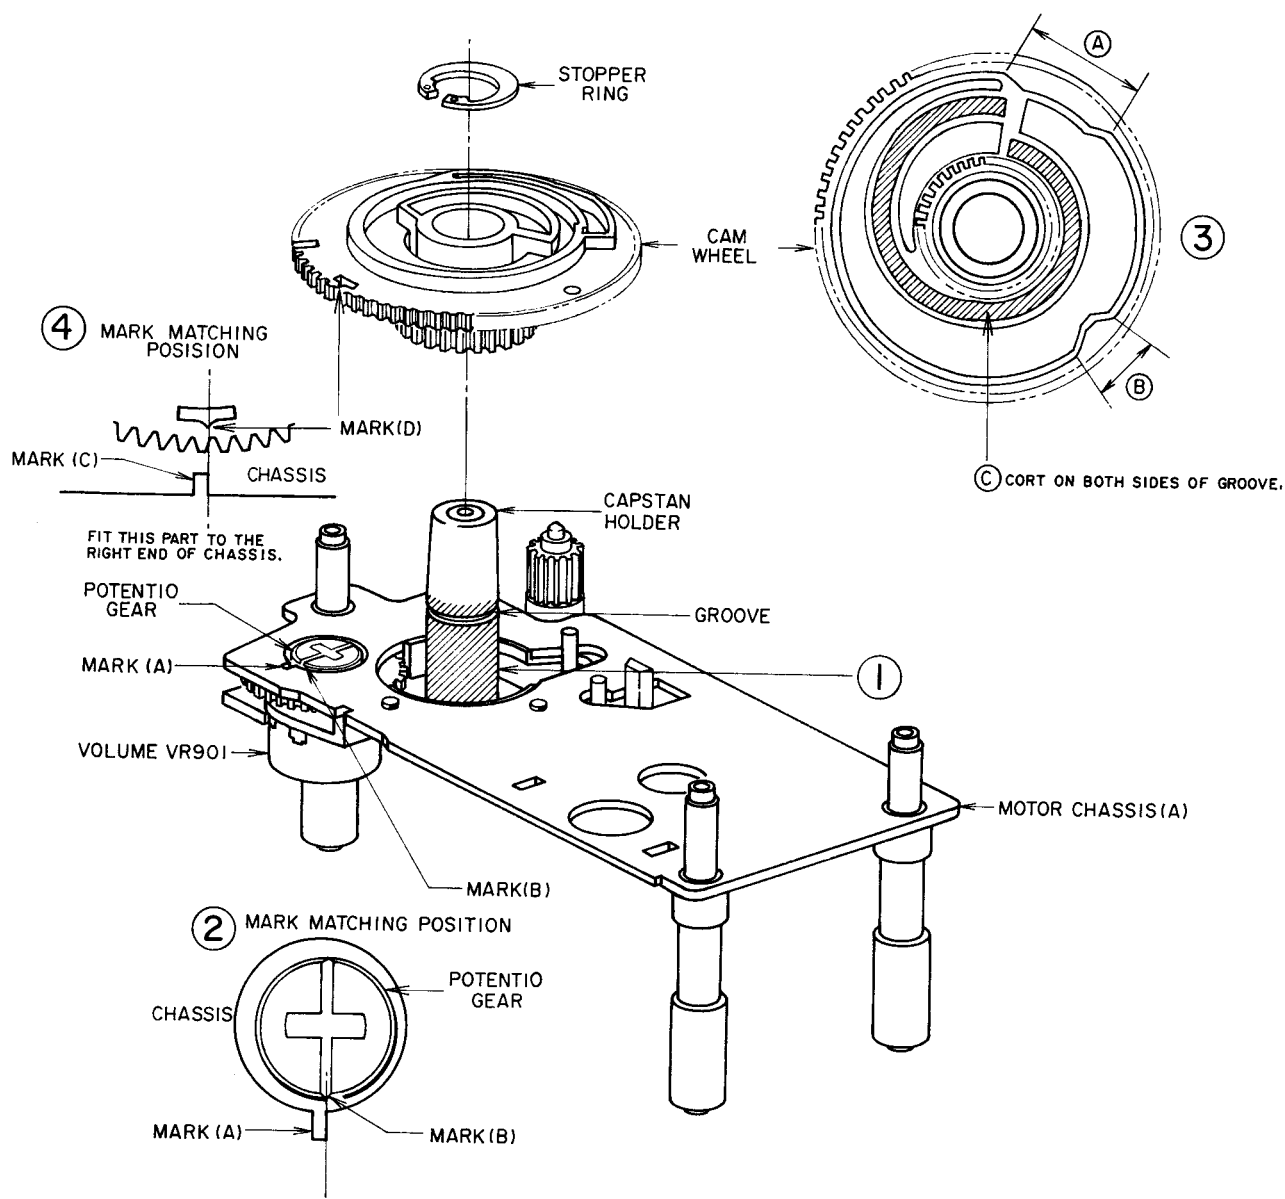

Fig. 2-10
Apply Molybdenum coat on the area of 360° from the bottom to the upside 2 mm of groove as shown in the figure. (Fig. 2-10- ①)
Fit the right end of Mark (A) to the center of Mark (B) as shown in the figure. (Fig. 2-10- ②)
- 3) Apply Molybdenum coat on (A), (B) and (C) shown in Fig. 2-10-③.
(Ensure that the cam wheel and potentio gear are meshed properly). When the cam wheel is set properly, fit the center of Mark (D) to the right end of Mark (C). (Fig. 2-10- ④)